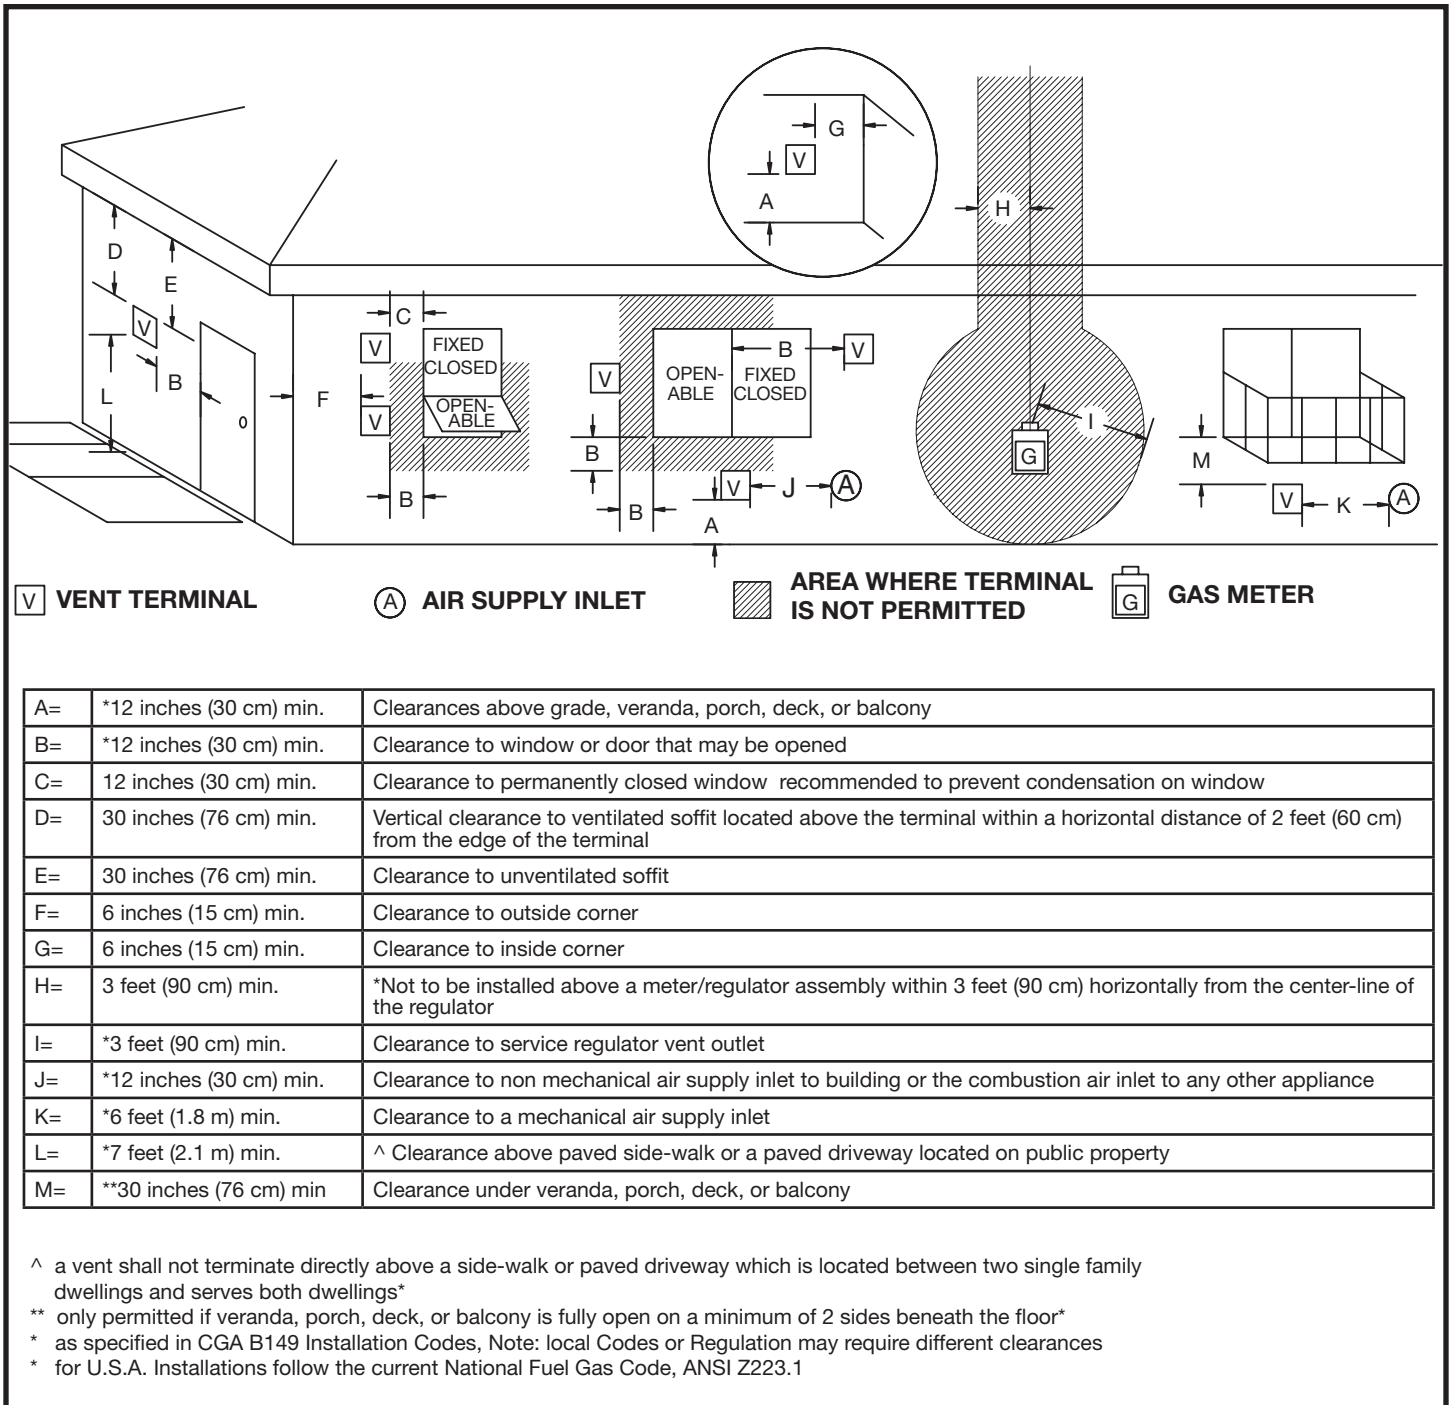
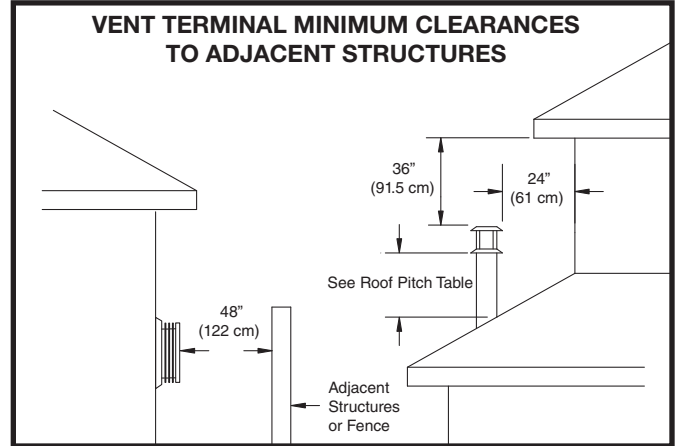

Figure 41: Vent terminal minimum clearances.
Figure 42: Vent roof clearance.
NOTE: MINIMUM CLEARANCES TO THE VENT TERMINAL MUST BE MAINTAINED. See Figure 41 & Figure 42.
2. Continue adding vent pipe lengths up and through the firestop(s) and through the roof. The vent pipe must extend at least 12" above the roof. Vent pipe may need to extend further depending on the roof pitch. See Figure 42 for precise lengths.
Minimum clearances to the vent terminal must be maintained as shown in Figure 41 & Figure 42. Measure clearances to the nearest edge of termination hood.